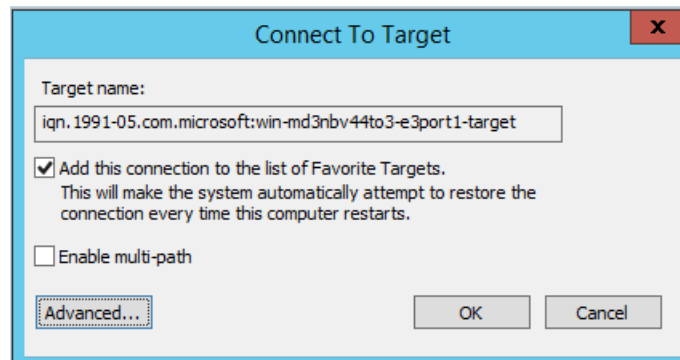

Figure 10-7. Connect To Target Dialog Box
9. On the Connect To Target dialog box (Figure 10-7), click **Advanced**.